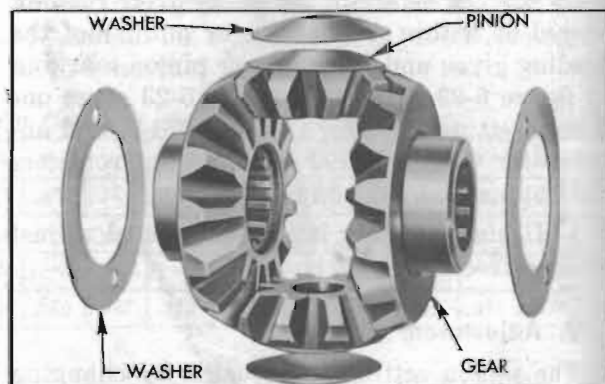

Figure 5-27—Differential Side Gears, Pinions, and Thrust Washers
13. Install differential side gears and thrust washers in case. See figure 5-27.